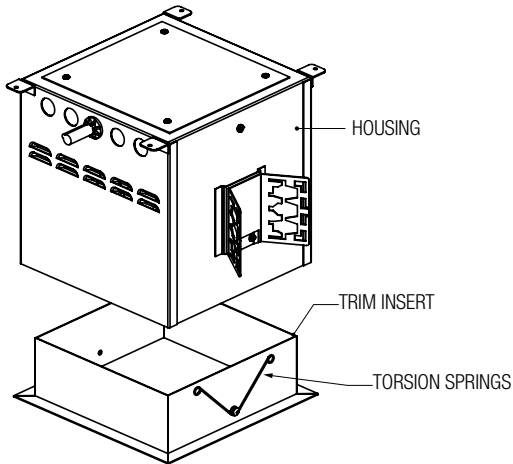

FIGURE 1
1. First REMOVE TRIM INSERT from Housing by compressing torsion spring at each side and pull straight down / lowering trim out from housing. *See Fig 1.* Fixture must be mounted using the BUTTERFLY MOUNTING BRACKETS.